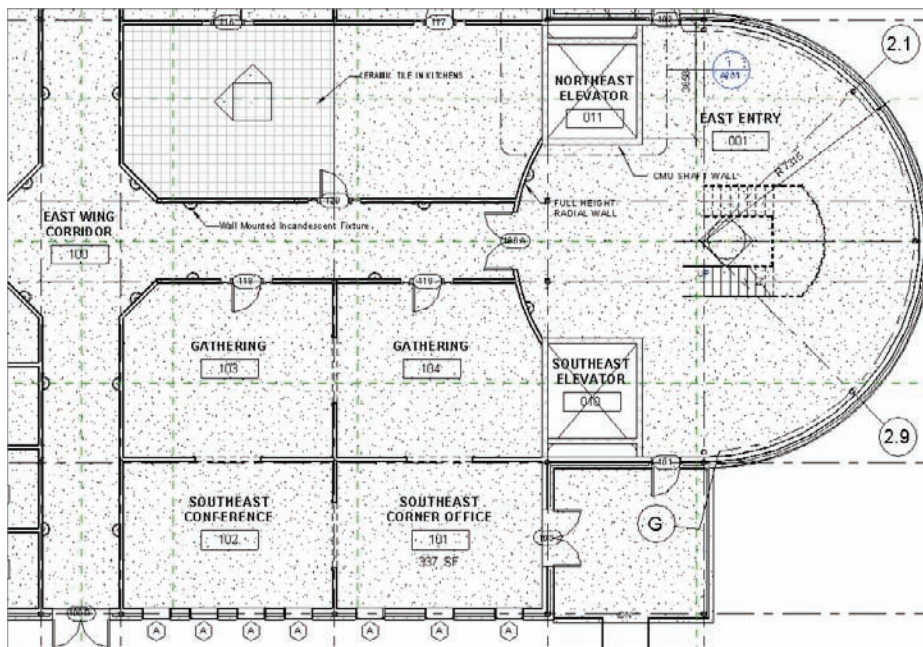

FIGURE 15.4 The first floor layout up to this point
2. Place a room in the adjacent area, as shown at lower left in Figure 15.4.
3. Call the room SOUTHEAST CONFERENCE (see Figure 15.4).
14. Just north of SOUTHEAST CONFERENCE and SOUTHEAST CORNER OFFICE, place two rooms, each called GATHERING. Number them 103 and 104 (see Figure 15.4).